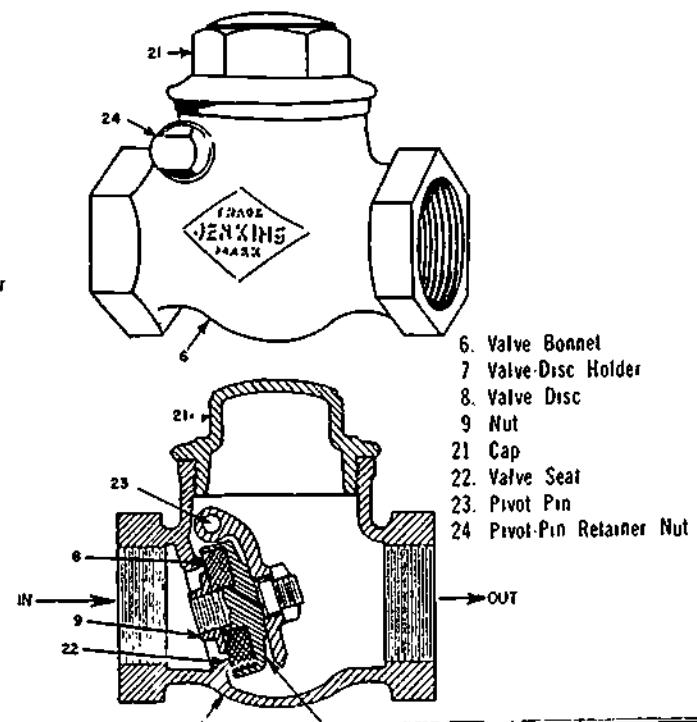

Figure 31-9. Check Valve
96. Check Valves. (Refer to Figure 31-9 in the accompanying appendix.) Check valves are used in piping systems to permit flow in one direction but to prevent flow in the reverse direction. They may be used in gas or fluid systems, such as the steam and water systems of sterilizers. When the flow is in the forward direction, the fluid or air causes the valve disc (8) and its holder (7) to swing in the direction of flow, thus opening the valve. When the flow tends to go in reverse, the valve disc is pressed against its seat (22), thus closing the valve to prevent any flow in that direction.